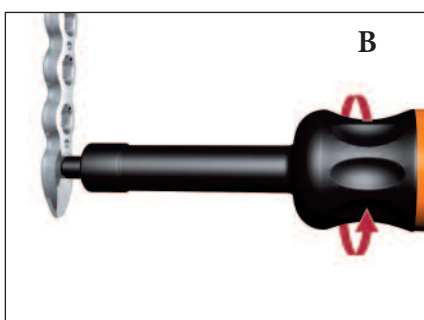
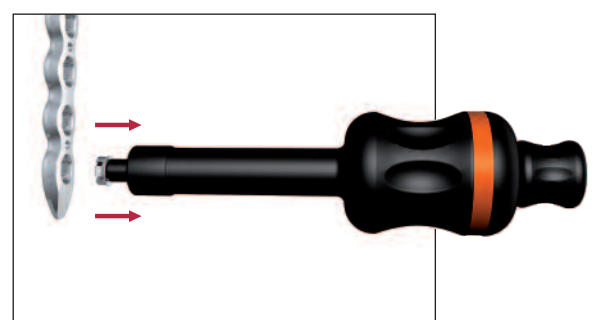

Fig. 15
Fig. 16
into the Locking Insert that you wish to remove until it is fully seated (Fig. 15). Then turn the outer sleeve/collet (B) clockwise until it pulls the Locking Insert out of the plate (Fig. 16).